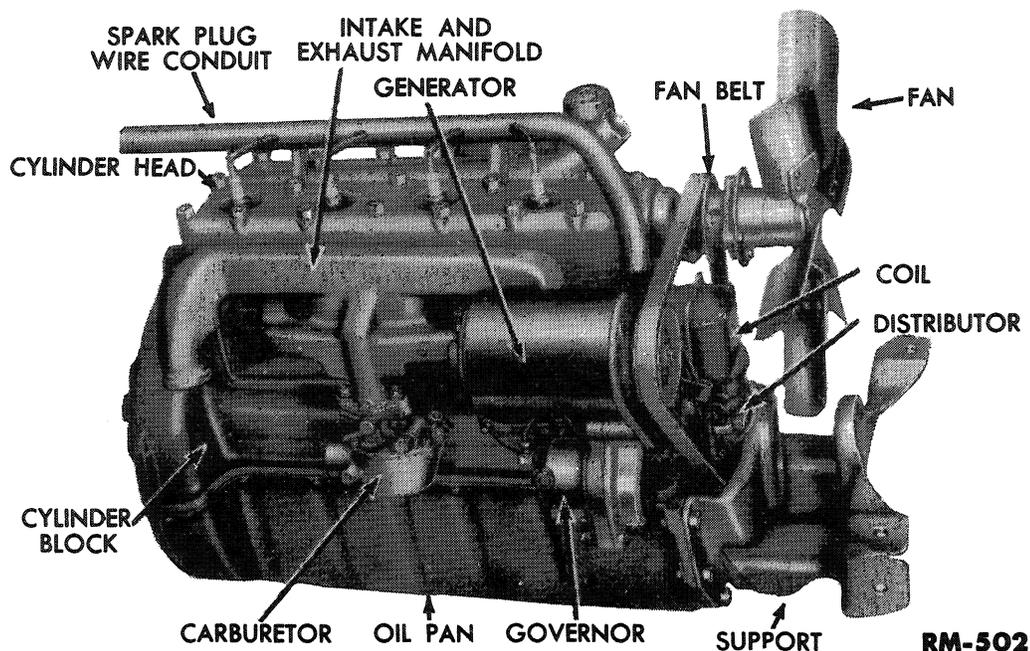

Fig. 2—Right 3/4 Front View of Engine
a. Remove Generator. Remove the nuts that secure the generator adjustment bracket to the timing gear side cover and generator. Disconnect the generator wiring. Remove the bolt and washer that secure the generator to the cylinder front cover, and remove the generator (fig. 2).
d. Remove Carburetor. Remove the two nuts and lock washers that secure the carburetor to the intake manifold. Remove the carburetor (fig. 2).
a. Remove Intake and Exhaust Manifolds. Remove the nuts and washers that secure the intake and exhaust manifolds to the cylinder block. Lift the manifolds off the cylinder block as an assembly (fig. 2).